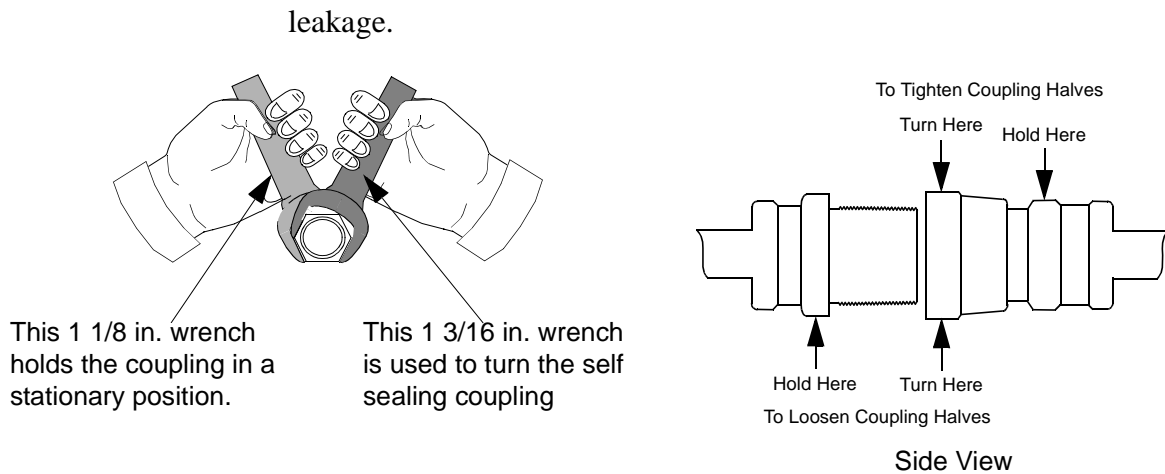

Figure 3-3: Connecting/Disconnecting Helium Flex Line Couplings
Make sure the helium flex lines are connected and disconnected from the 9600 Compressor using the following procedure and as shown in Figure 3-3. Failure to follow this procedure could damage connector O-ring seals or cause a helium circuit leak.
2. Connect the Gas Return line to the GAS RETURN connector on the rear of the Compressor and then to the GAS RETURN connector on the cryopump. Using two wrenches as shown in Figure 3-3, tighten the connector.
3. Connect the Gas Supply line to the GAS SUPPLY connector on the rear of the Compressor and then to the GAS SUPPLY connector on the cryopump. Using two wrenches as shown in Figure 3-3, tighten the connector.
1. Using two wrenches as shown in Figure 3-3, disconnect the two self sealing coupling connectors quickly to minimize helium